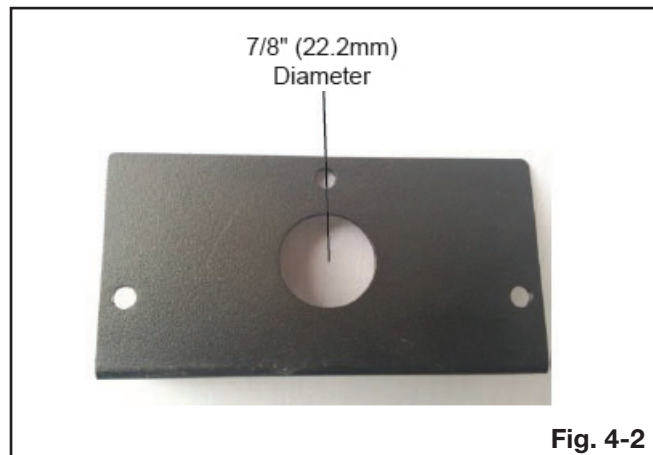

Fig. 4-2
3. Punch out the 7/8" (22.2mm) hole in the new cover plate (supplied) (**Fig. 4-2**) and install a box connector through the junction box. Snap the box connector clamp onto the supply wires.